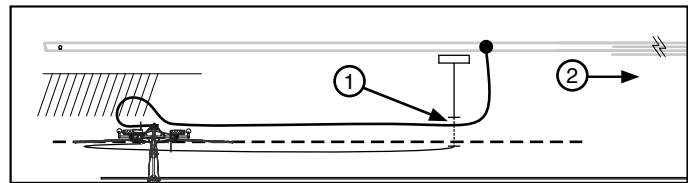

Figure 47-4 1. Buried Cable
- (c) After the swivel inlet has pivoted completely the hose is being pulled by the swivel inlet and guided by either the side walls of the cart tires or the optional hose bumpers. See figure 47-4.